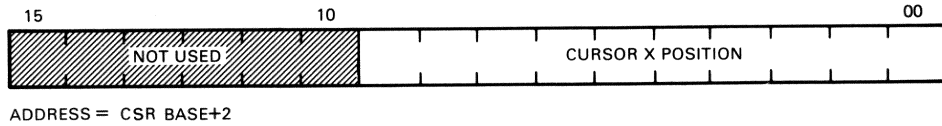

Figure C-22 VCB01 Cursor X-Position Format
C.2.2.2 Cursor X-Position – This register (Figure C-22 and Table C-5) contains the horizontal position location of the top left corner of the 16×16 (pixel) cursor image. The value is in pixels and must not allow the cursor to be positioned beyond the maximum X pixel. That is, the maximum value is 1007 ($1023 - 16$) for a VR260 monitor, and 783 ($799 - 16$) for a 38 cm (15 in) monitor.